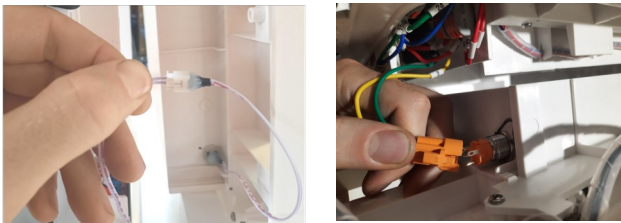

Figure 10
12. Plug in the rain sensor connector (white) and the reset button (orange) as shown in *Figure 10*. These can only be plugged in in one orientation.